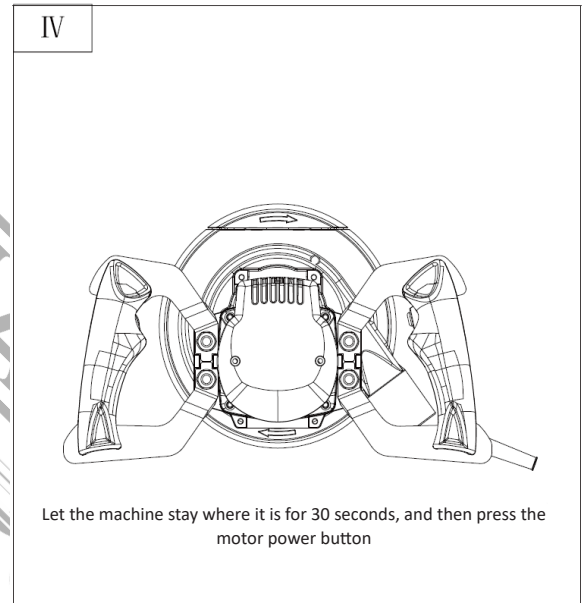

Fig. 4
**Step 4:** As shown in figure 4, once you stop working, remove your hands from the handle and let the machine stay where it is for 30 seconds. Afterwards, press the motor power button after the dust inside of the anti-dust cover has been properly collected and cleaned.